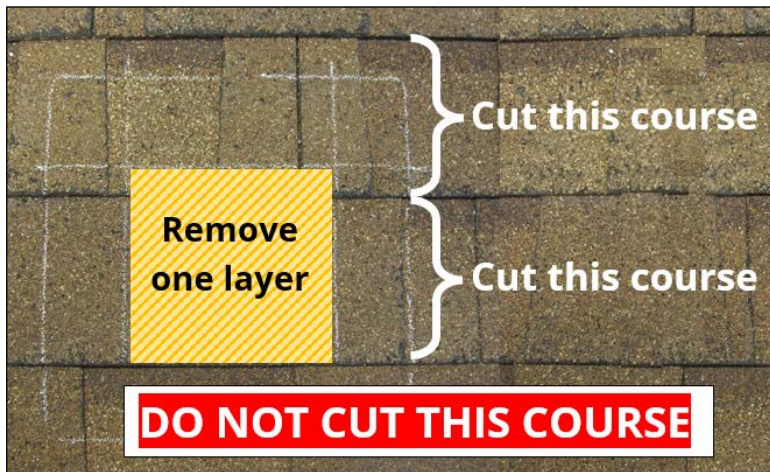
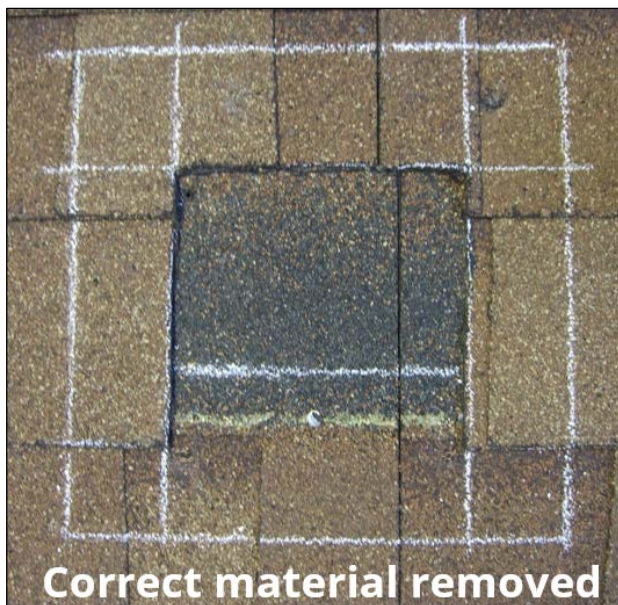

Fig. J3
Fig. J4
5. Cut and remove one layer of shingle material in the crosshatched area (Fig. J3 and Fig. J4).